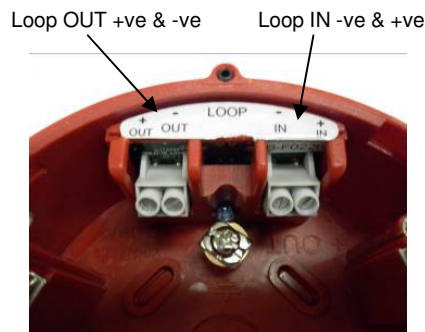

Figure 1
1. Set Address using EV-AD2-EXT Programmer and Universal Addressing lead to connect to the Loop IN Terminals, shown in Fig 1.
3. Connect loop IN & OUT wires to the terminals shown in Fig 1.